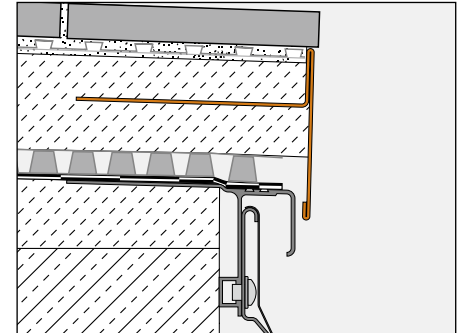

Fig. 6
**Installation in screed (Fig. 6)**